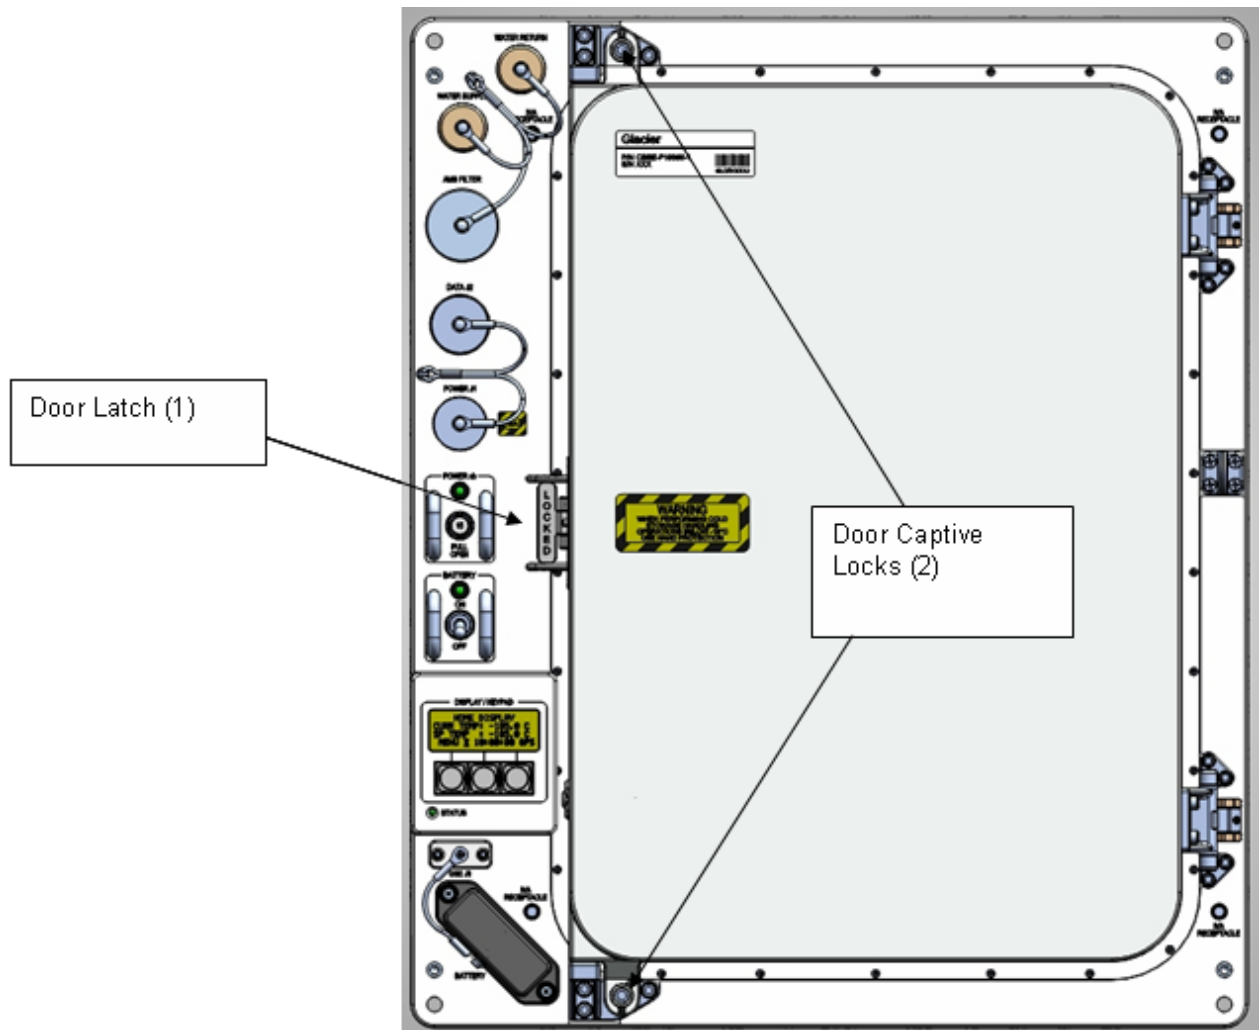

Figure 1. Glacier Door Captive Locks
- 4.3 Fasten Glacier Door Captive Locks (two), torque to 75 in-lbs using (3/16" Hex Head, 1/4" Drive, 1/4" - 3/8" Adapter; 4" Ext, 3/8" Drive; (40 to 200 in-lbs) Trq Wrench 1/4" Drive) (reference Figure 1).